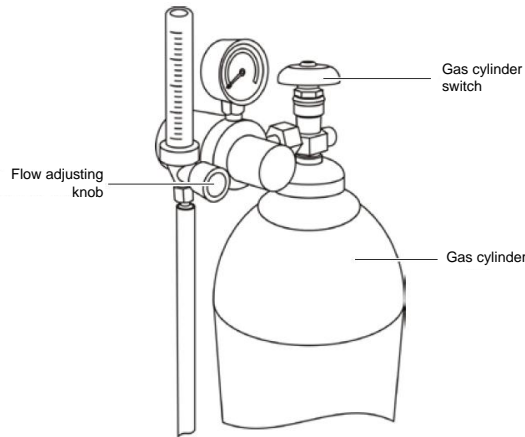

Figure 2-11 Position of the flow adjusting knob
1. Turn on the switch of the gas cylinder. (See Figure 2-11.)